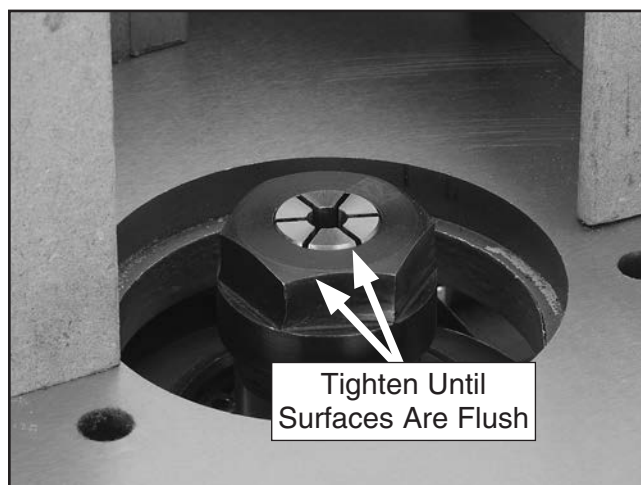

Figure 51. Collet flush with top of collet nut.
8. Insert collet into spindle cartridge and tighten collet nut until collet is flush with top of collet nut, as shown in **Figure 51**.